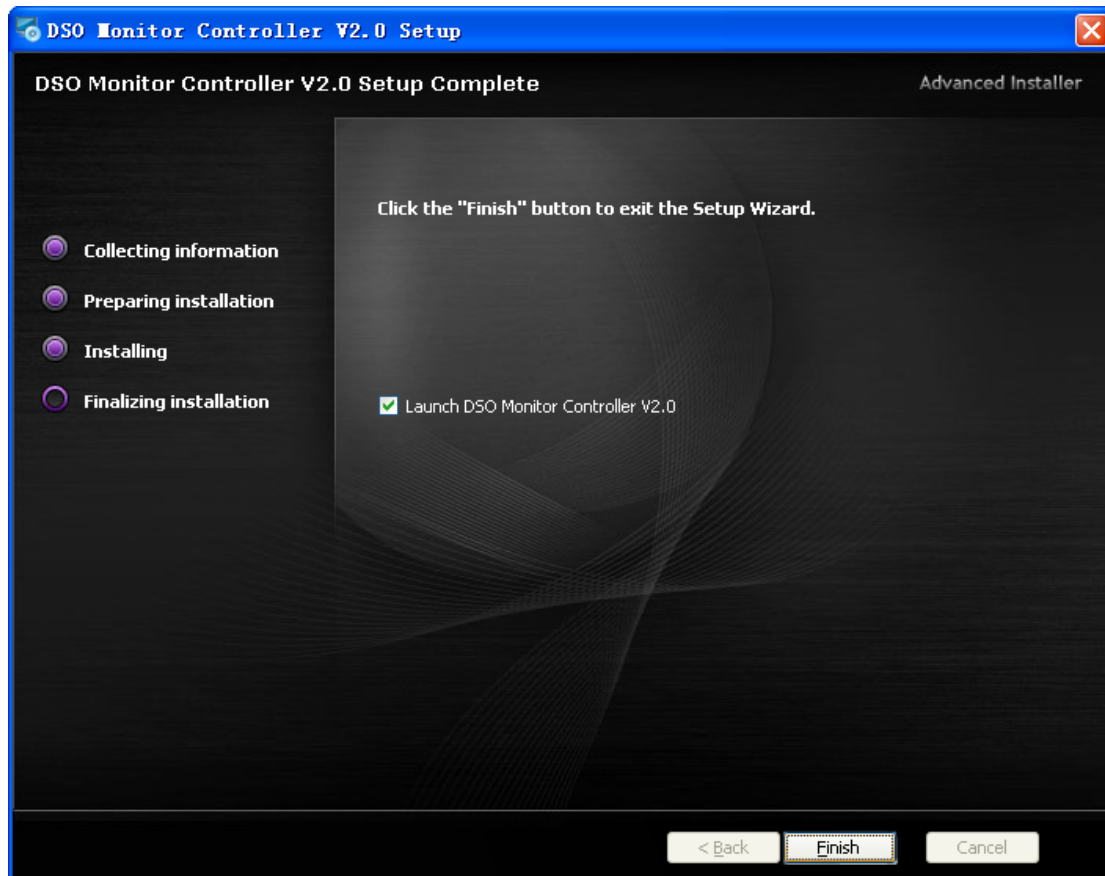

Fig. 1-6
Step 5: After automatic program installation, an interface as shown in Fig.1-6 will pop up. Click **Finish (F)** to finish installation of the software on the computer.